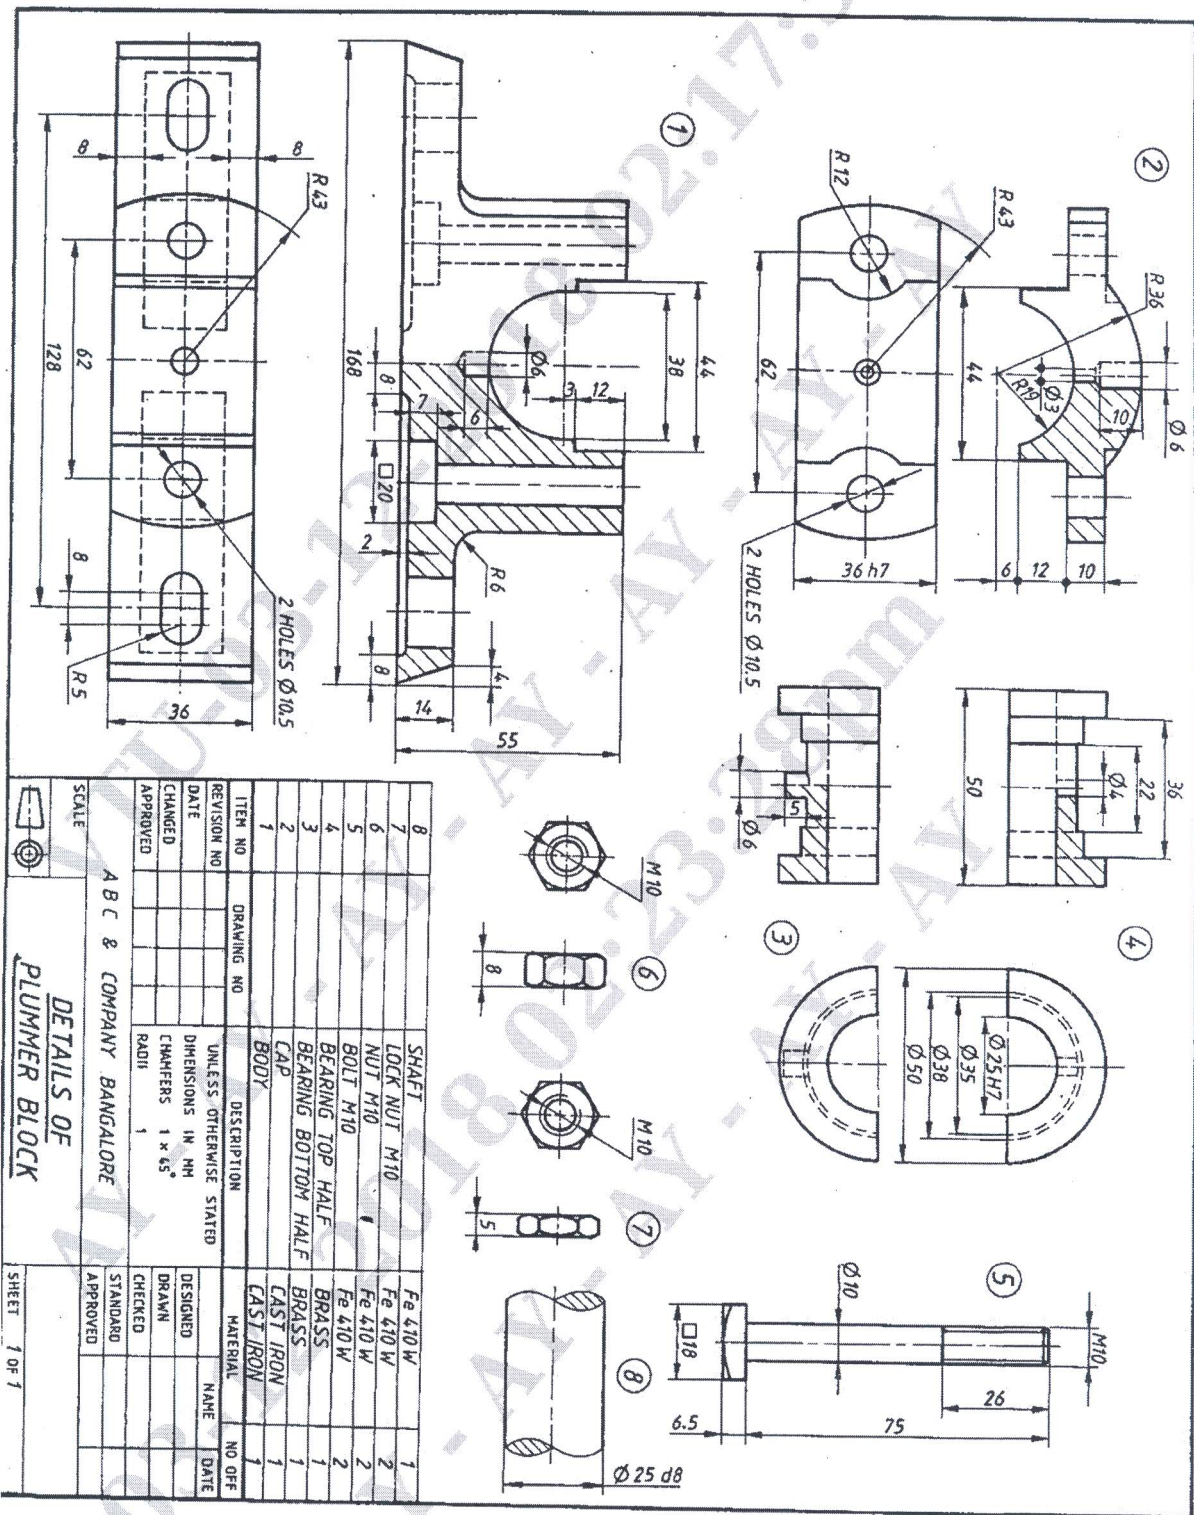

Figure 1
- Q.No.5** Details of 'PLUMMER BLOCK' are shown in following Figure 1. Assemble the parts and draw the following views of the assembly.